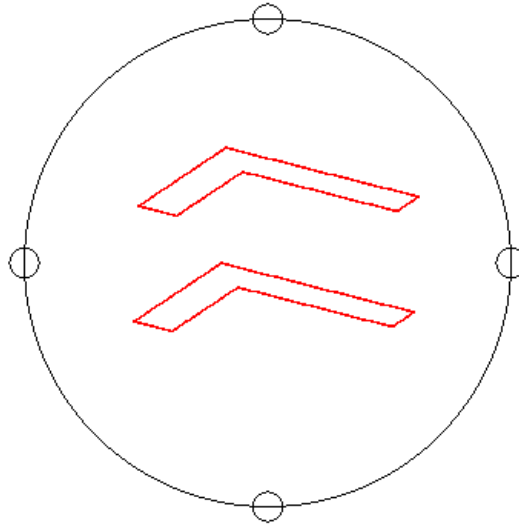

Figure Step 7
Step 7 Using the 3DFORBIT command, orbit the model slightly. (Figure Step 7)